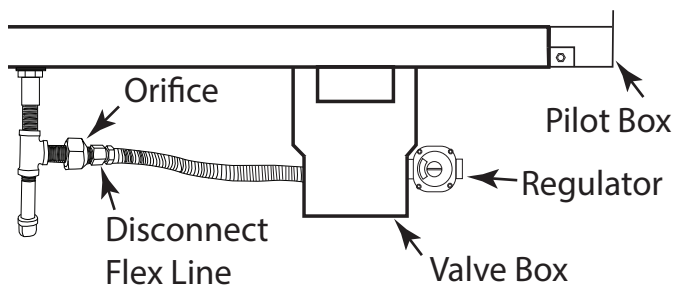

Fig. 2 Changing main burner orifice
Step 4: Locate the gas regulator on the opposite side of the valve box. Using a regular size flat bladed screwdriver remove the aluminum cap and washer from the regulator. See Fig. 2.